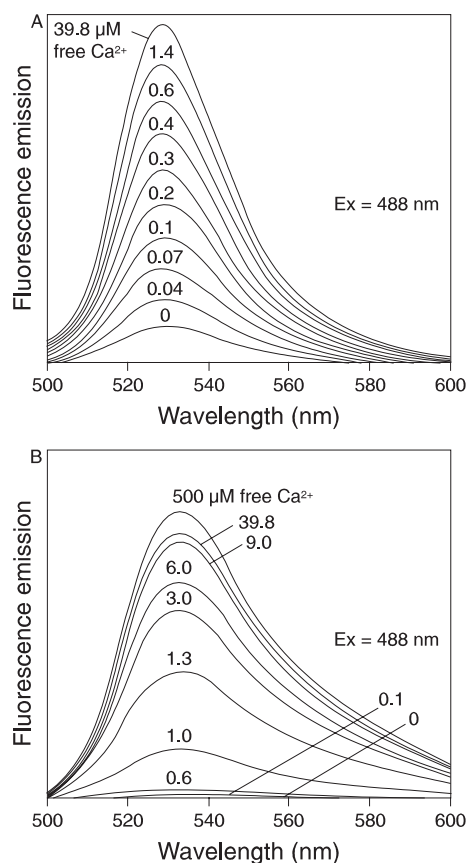

Figure 1. Emission spectra of A) Calcium Green™-1 and B) Calcium Green™-2.
The long-wavelength calcium indicators Calcium Green™, Oregon Green® 488 BAPTA, Calcium Yellow™, Calcium Orange™, and Calcium Crimson™ are visible light-excitable probes derived from fluorescein, Oregon Green® 488 dye, lucifer yellow, tetramethylrhodamine, and Texas Red®, respectively. Molecular Probes prepares these indicators in the water-soluble potassium salt form, cell-permeant acetoxymethyl (AM) ester form, and in some cases as compartmentalization-resistant dextran conjugates (Table 1). Upon binding to calcium, these indicators exhibit an increase in fluorescence emission intensity with little shift in wavelength (Figure 1). The spectral characteristics of the long-wavelength indicators have three major advantages: 1) Their emissions are in regions of the spectrum where cellular autofluorescence and scattering backgrounds are often less of a problem; 2) The energy of the excitation light is low, reducing the potential for cellular photodamage; and 3) The wavelengths required for optimal excitation are compatible with those produced by laser-based instrumentation, such as confocal laser scanning microscopes. Long-wavelength Ca²⁺ indicators also provide increased options for simultaneous measurements of other physiological parameters, such as pH and membrane potential,^{1,2} and for experiments involving photoactivatable “caged” probes.³